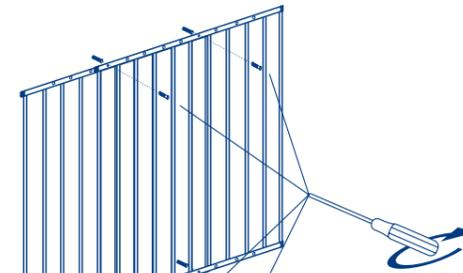

Fig. 6
- Slide each gate panel in the opposite direction to the width of your doorway. Lock panels by using accompanied post screws through the holes and fasten panels together. Tighten with screwdriver (Fig.6)